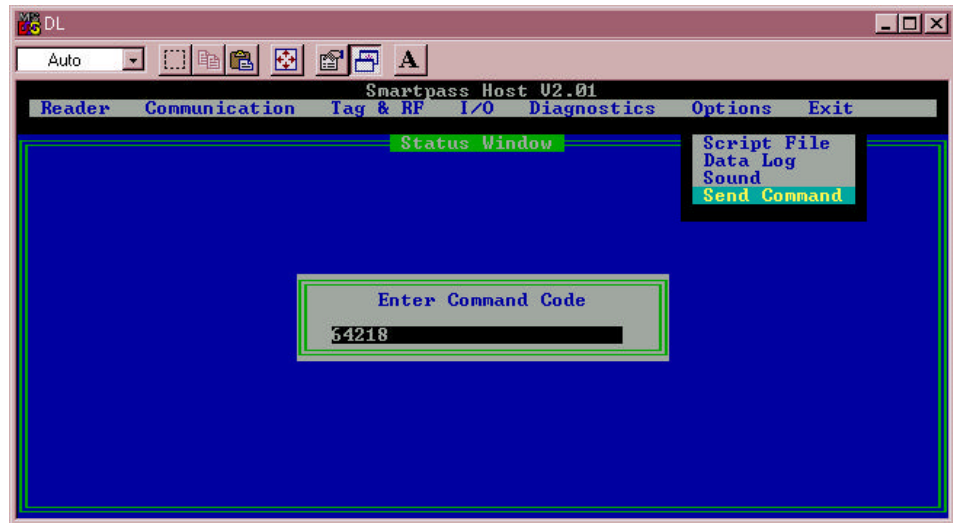

Figure 4-18 Set RF option
2. To change the RF setting, select the **Options** drop-down menu and click on **Send Command**. This displays the **Enter Command Code** dialog box shown in Figure 4-18.
This sets the frequency from 902 to 928 MHz in 0.5 MHz steps. In the example shown in Figure 4-18, the command 64218 sets the frequency to 914 MHz.